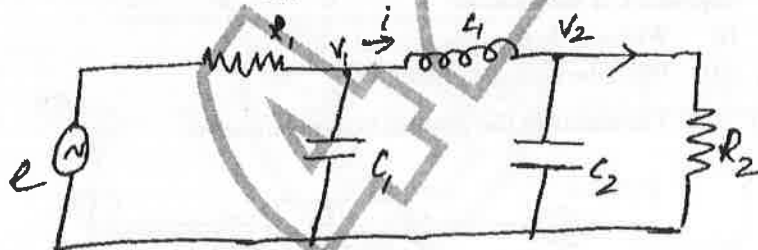

Figure 7
- (ii) Obtain state space representation for the electrical network shown in Figure 7 below.